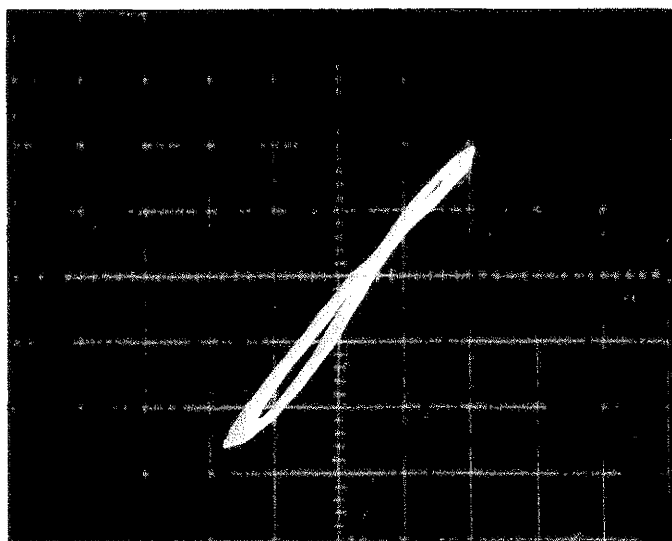

Fig. 30—Use the 0° phase point as a reference when a scope is used to measure the accuracy of the FC51.
a. If the lissajous pattern is "turning" very slowly, measure the amount of time for the signal to go through 360° phase shift. This is easiest to do by measuring the time when the signal passes through the 0° point twice as illustrated in Fig. 30.